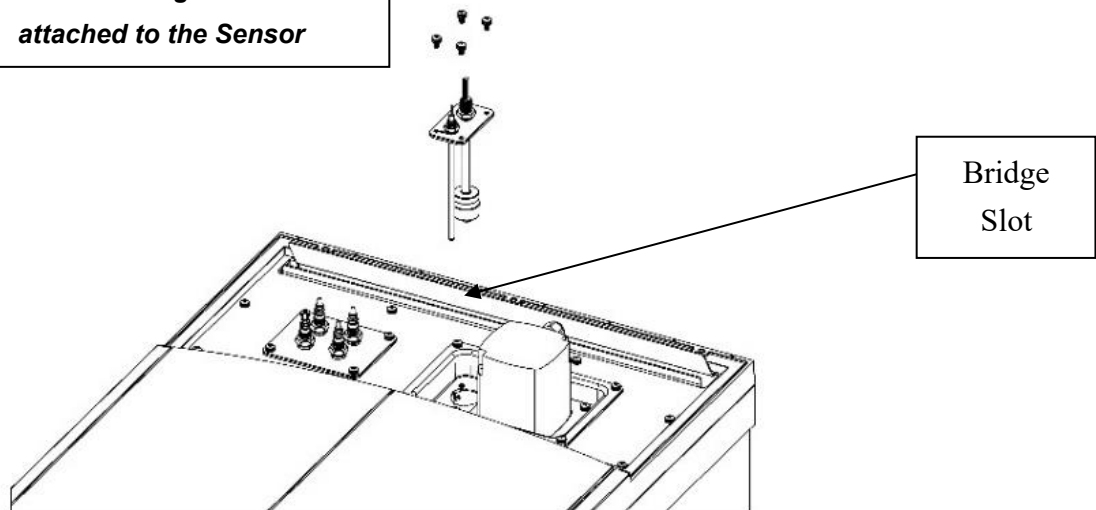

Figure 6 – Remove the Sensor Assembly
- d. Remove the four M5 screws holding the sensor assembly (See **Figure 6**).